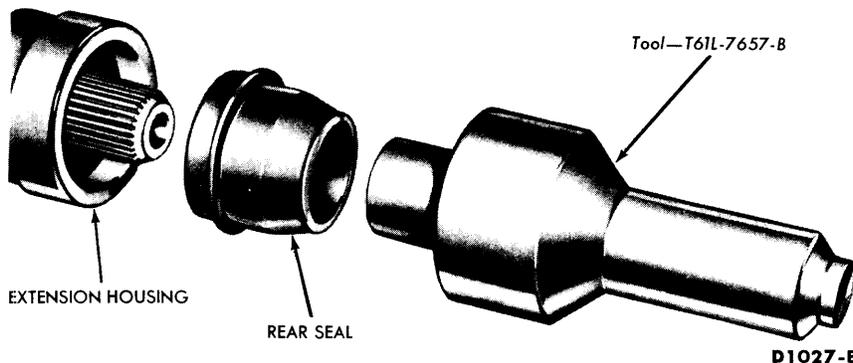

FIG. 5—Extension Housing Rear Seal Installation
7. Drive the seal into the housing with the tool shown in Fig. 5. The seal should be firmly seated in the bore. Coat the inside of the spline and seal with B8A-19589-A lube. Install the drive shaft.